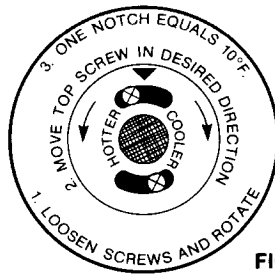

FIG. 2
**EXAMPLE:** If the oven temperature is too cool and ALL foods are requiring a longer time period to cook, the knob should be rotated to move the top screw toward the word "HOTTER". (See Fig. 2)